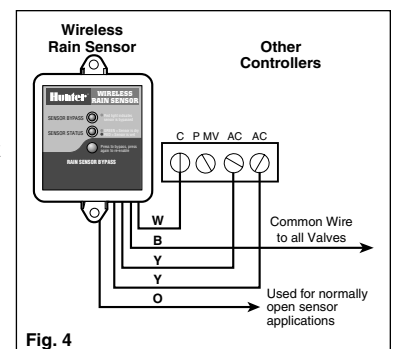

Fig. 4
(See Fig. 4).
A. Normally Closed Sensor Applications (See Fig. 4)